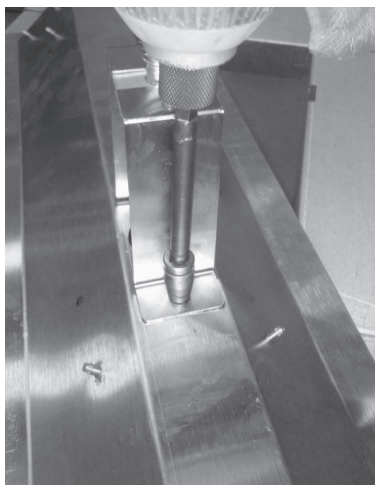

Figure 5.2 Attach Flexible Bulk Head and Bracket to Pan
4. Attach flex line and flex line bracket to bottom of pan with hex screws provided. See Figure 5.2.